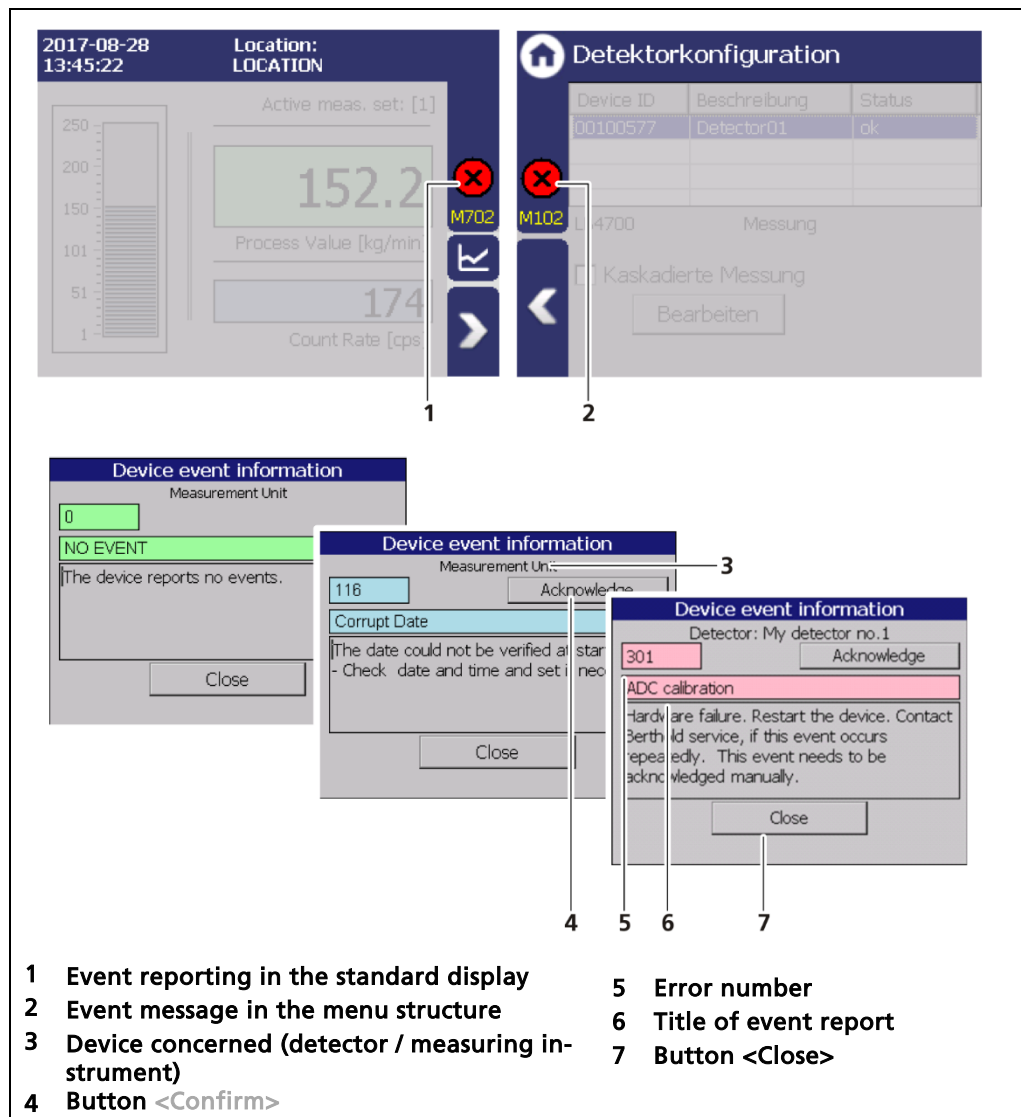

Fig. 32 Event report (Example: Date faulty)
1. Click on the icon (Fig. 32, item 1, item 2) to display detailed information about the event.